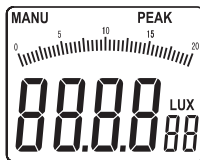

Figure 5-1-2B
- Press and hold “REL/PEAK” key for one second, the device will enter the peak value measurement mode, “PEAK” LCD will appear on the top right position of the LCD interface, and at the same time, “MENU” will appear on the top left position of the LCD interface (as shown in figure 5-1-2B).